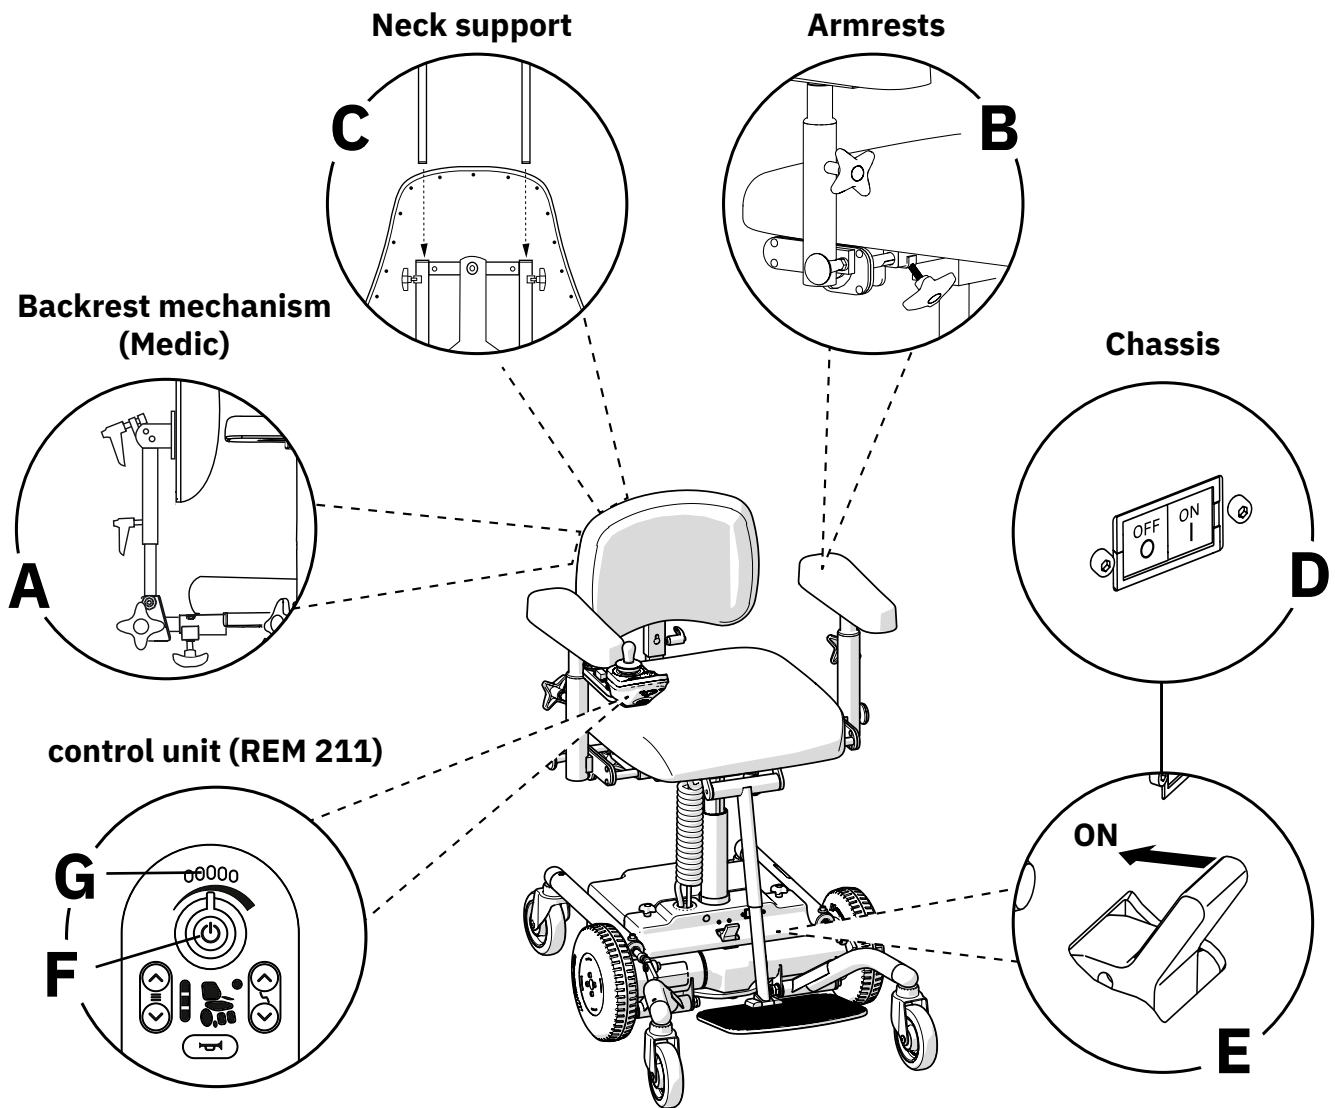

Figure 2.1. Preparations before the device is put into use.
Place the back rest support post in the back rest mechanism (B) and set the desired height level, see Figure 2.1. Tighten all levers (A). The image shows one of several back mechanisms available for Mercado Medic devices. Other back mechanisms are mounted in the same way, although the appearance may differ from that in the image.
Loosen the armrest levers (C) and set the desired height and width levels, see Figure 2.1. Tighten all controls (B). Make sure the knob clicks into the locking position when the armrest is lowered. If the knob does not click in position, rotate the knob until it clicks firmly.
If the device is supplied with a headrest, insert the head rest mechanism into the back rest bracket (C) and set the desired height level, see Figure 2.1. Tighten all controls (C).
Check that the circuit breaker is in the "ON" (D) position and that the brake activation lever is in the "ON" (E) position, see Figure 2.1.
1. Turn on the main switch (F), see Figure 2.1.
2. Check that the battery level indicator is at least showing a yellow mark (G). Charge the device if the indicator is showing a red marking. See 2.3. Charging.
3. Make sure the light on the main switch (F) is green.